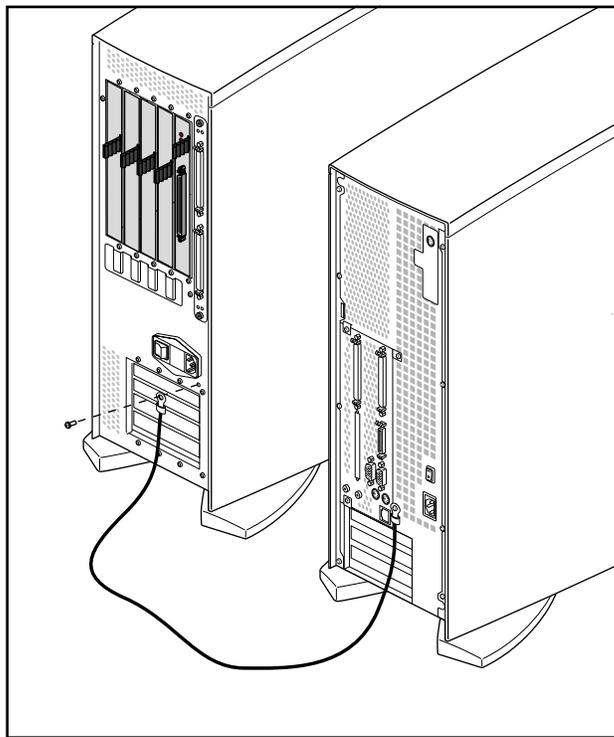

Figure 2-11 Attaching a Grounding Cable Between a GIGACHannel Expansion Cabinet and a CPU Module
1. Attach the grounding cable between the GIGACHannel cabinet and the CPU module, as shown in Figure 2-11.